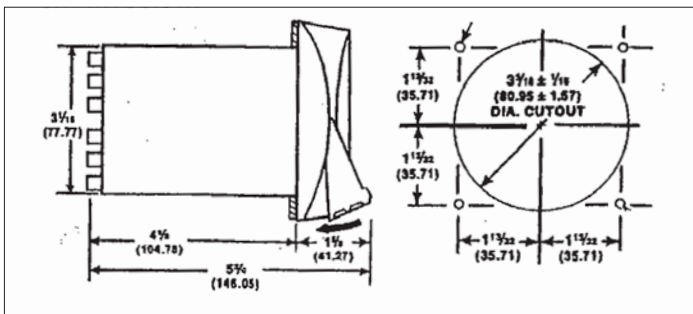

Figure 1
1. The OKT is designed for mounting in a panel or an enclosure. Mounting dimensions and cutout sizes are shown below in Figure 1.